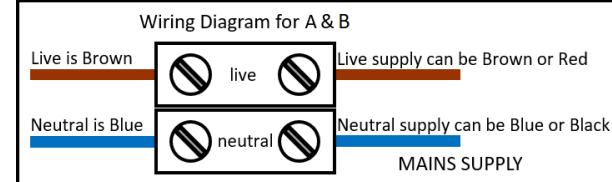

Fig 1. Diagram showing terminal block connections
- The terminal block (not supplied, see fig. 1) used to connect the leads to the electrical supply can be of either the screw- or screw-less type and should be rated at 240V 6A with 4 terminals. The cable tails do not need to be crimped when connected to the terminal block.